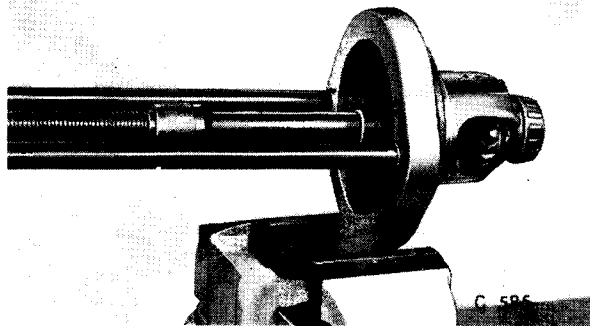

Fig. 33. Withdrawing differential side bearings
Remove the differential carrier assembly and the spreading tool. Using Tool No. S.4221A-8C, withdraw the bearings (19) as shown on Fig. 33.